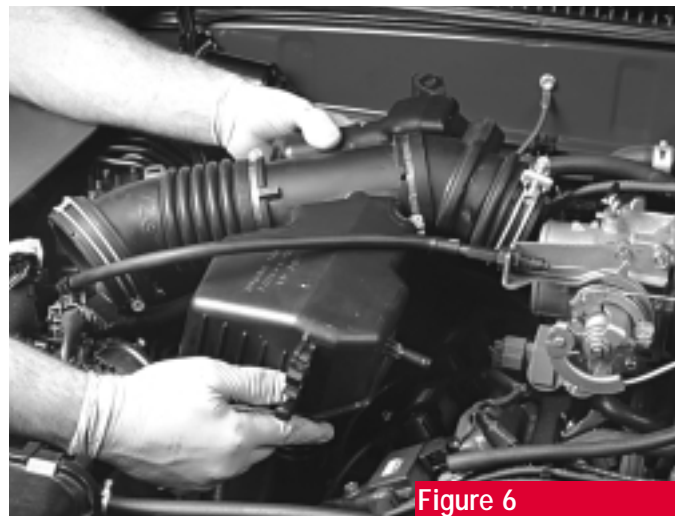

Figure 6
10. Remove any connections from the air intake tube and remove the tube (**figure 6**).